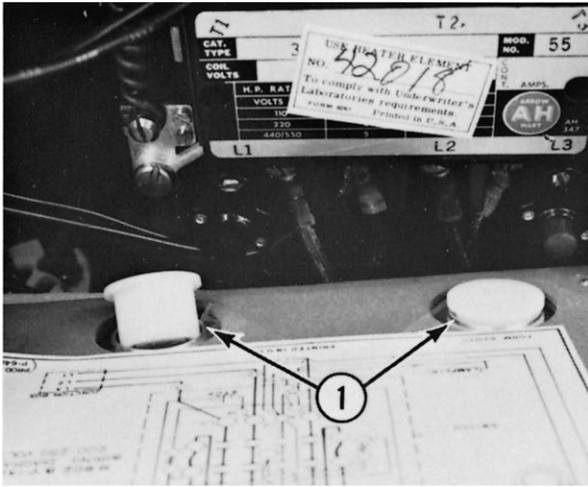

Fig. 11-31
T. Place the push buttons (1, Fig. 11-31) in the switch plate, and install the switch plate.